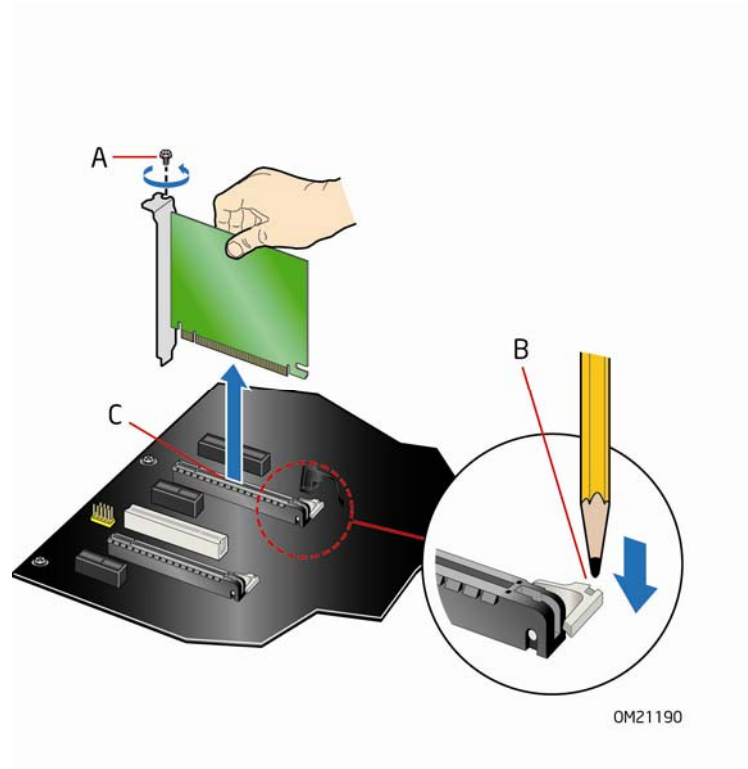

Figure 25. Removing a PCI Express x16 Card
2. Remove the screw (Figure 25, A) that secures the card's metal bracket to the chassis back panel.
3. Push the card ejector lever down using the tip of a pencil or similar tool (Figure 25, B) in the notch. This will release the card from the connector (C).